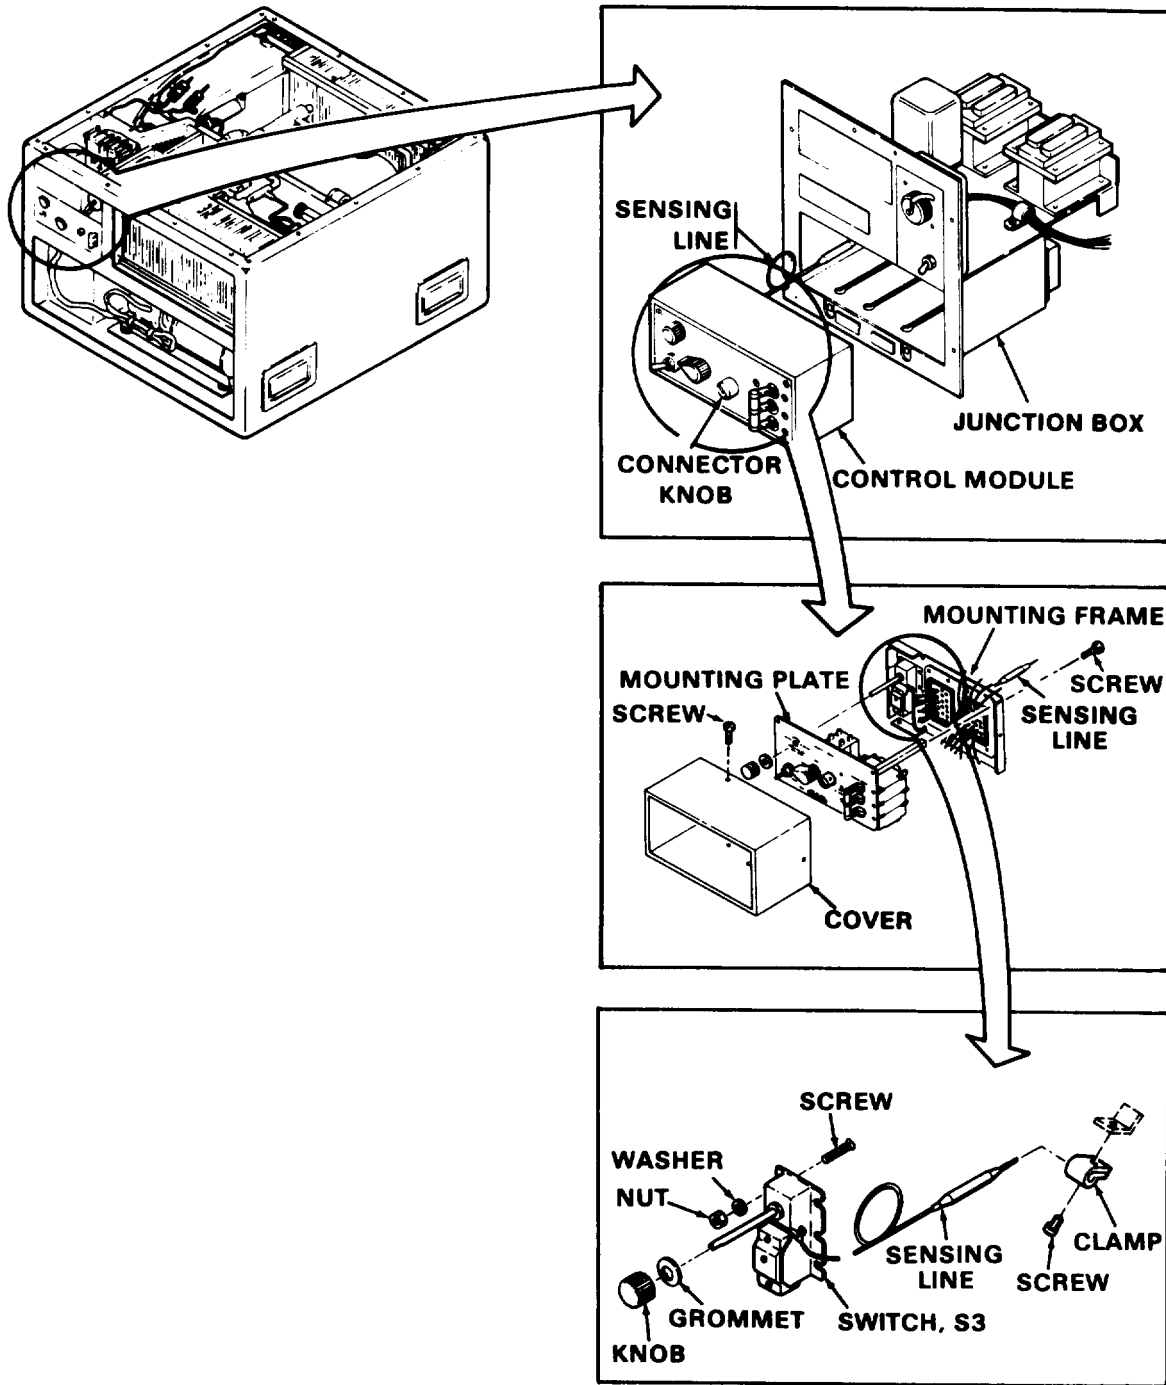

Figure 4-12. Temperature Control Switch (S3)
(1) Remove control module per paragraph 4-27
(2) Refer to figure 4-12 and remove the temperature control switch.
(1) Refer to figure 4-12 and install the temperature control switch.
(2) Refer to para 4-27 and install the control module.